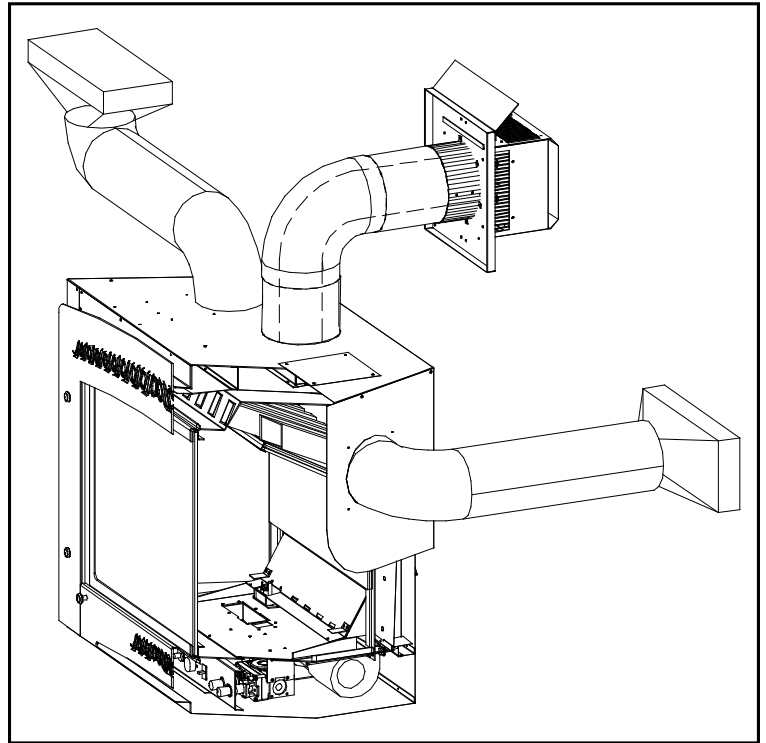

Figure 27. Heat Dumping Options.
The option of ducting allows heat from the fireplace to be transferred to a different area. The maximum total length for the ducting is 20 feet (6.1 m). There are four (4) duct outlets that can be used (see Figure 27), however, the blower puts out 200 cfm no matter how many ducts are used. Therefore, the more ducts there are, the less air goes through each one. A short, straight duct maximizes its heating ability as air in the ducts is restricted by the length and number of bends in the pipe.